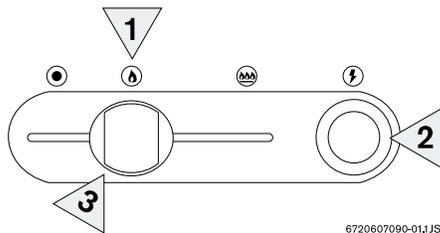

Fig. 13 - Gas control slide - Pilot ignition position
- 12.4 Move the gas control slide to the ignition position ①. (fig. 13).